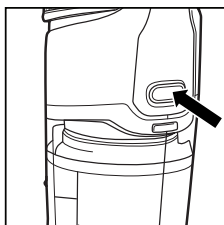

Fig. 1
1. Push the dust cup latch to remove the dust cup from the vacuum (Fig. 1).